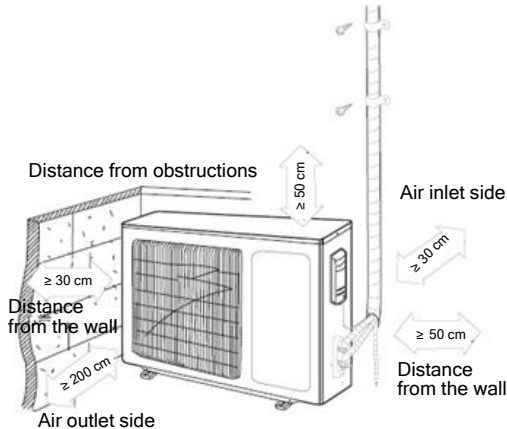

Figure 5-2 Space requirements for installation
(2) The distance between the main unit and the walls or other obstructions must not be too small, and the space for installing the main units must meet the requirements provided in Figure 5-2.